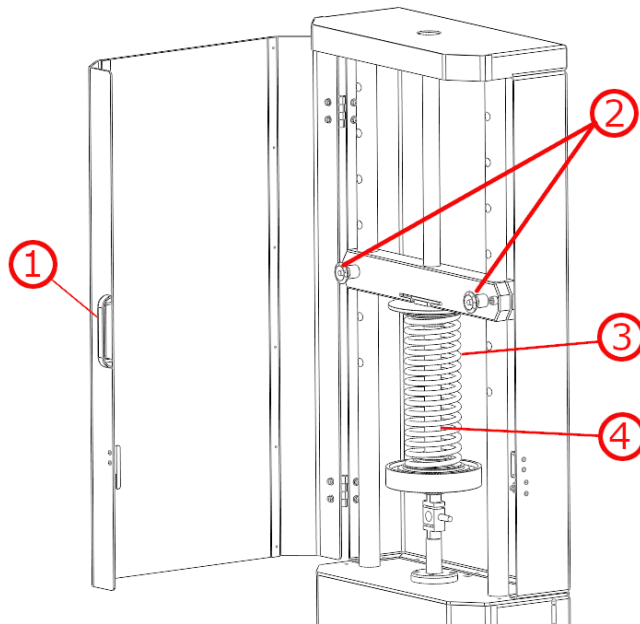

Figure 8
3. Open the safety lid (Figure 8 – Step 1) by pulling from the cover side handle.
5. Pull out the locking pins by pressing the button in the middle of the pin and adjust the crossbar height according to the spring length which is going to be tested.(Figure 8 – Step 2)
6. Place the spring (Figure 8 – Step 3) on the mounting platform in a vertical manner.
7. Place the insert tube inside the spring to prevent it from bending or falling out during a test (Figure 8 – Step 4).